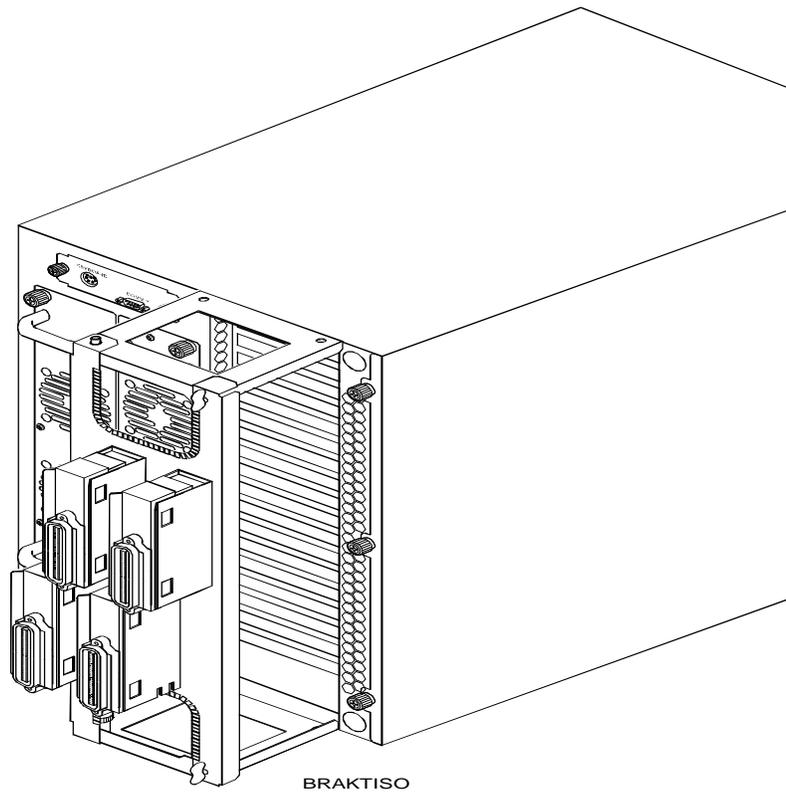

Figure 3-2. Tip/Ring Distribution Hardware on MAP/100P
The Tip/Ring distribution hardware attaches to the rear bracket on the MAP/100P (Figure 3-2).
3. Secure the u-shaped adapter brackets to the mounting plate on the rear of the MAP/100P with the screws provided (Figure 3-2).